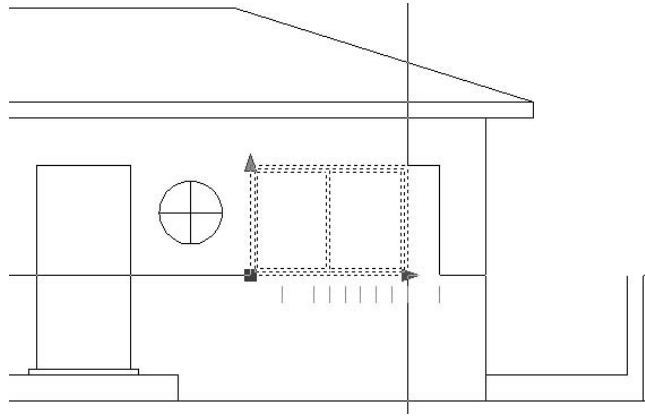

FIGURE C.11: The dynamic window block selected and displaying the new 6' increment for width
8. Back in the drawing, click the window block in the living room window opening, and then click the arrow at the lower-right corner. Now you can see an increment marker that coincides with the opening's width (see Figure C.11).